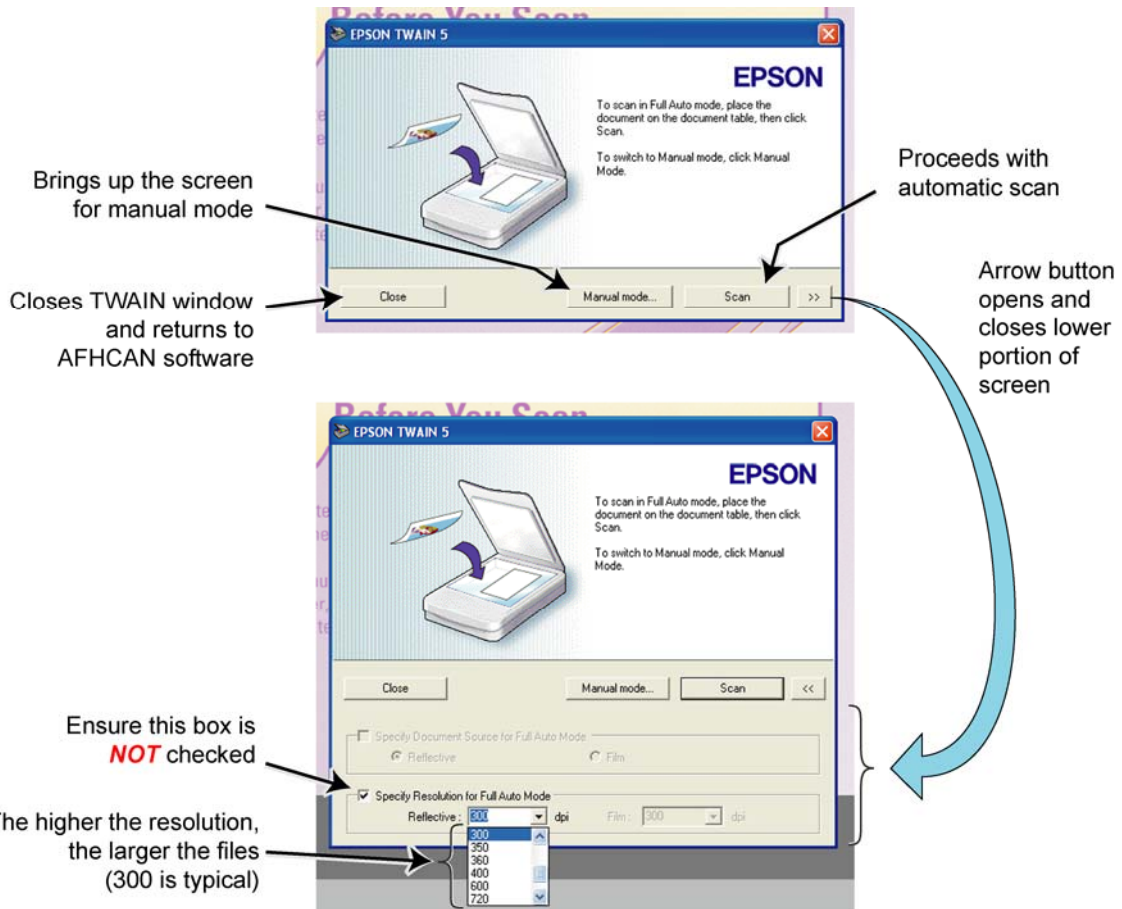

**Figure 15**
The preview function does a quick scan of the original to determine its type and area (image types are listed in Table 1). When actual scanning begins, the TWAIN pop-up has the appearance shown in Figure 14. Figure 15 shows the *Scanner* screen after scans have been obtained.
- manually cancelling a scan (while not the preferred method, it is possible to cancel a scan during the preview: on the screen shown in Figure 12, push **Cancel**, then on the screen shown in Figure 15, push **Close**)
1. Press the **Full Auto mode** button. This returns to the screen in Figure 15.
2. On the screen shown in Figure 15, ensure that the manual setting for resolution is deactivated as follows:
3. On the screen in Figure 15 (upper window), press **Scan** to initiate a scan and set automatic mode as the default for the next scan session.